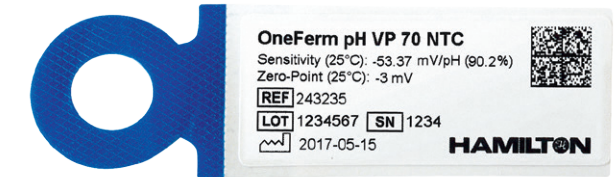

Figure 3: Example sensor label with calibration data.
1. Read the zero point (mV) and sensitivity (mV/pH) written on the sensor label (see figure 3).